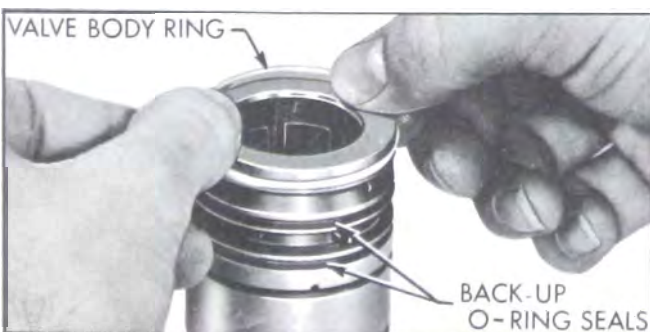

Figure 8-51—Installing Valve Body Rings
1. If removed from valve body, lubricate three new ring back-up O-ring seals in automatic transmission oil and assemble in the three ring grooves on the valve body. Assemble three new valve body rings in the ring grooves over the O-ring seals by carefully slipping over the valve body. See Figure 8-51.